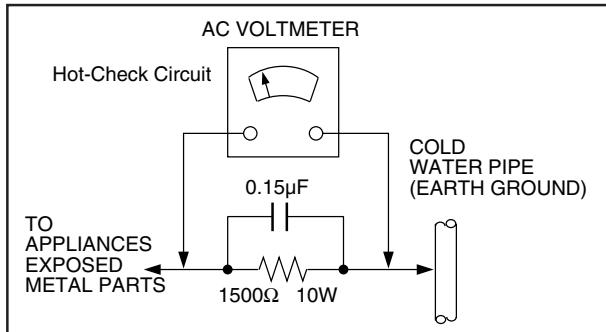

Figure1
## LEAKAGE CURRENT HOT CHECK (See Figure 1)
2. Connect a  $1.5k\Omega$ ,  $10W$  resistor, in parallel with a  $0.15\mu F$  capacitor, between each exposed metallic part on the set and a good earth ground such as a water pipe, as shown in Figure1.